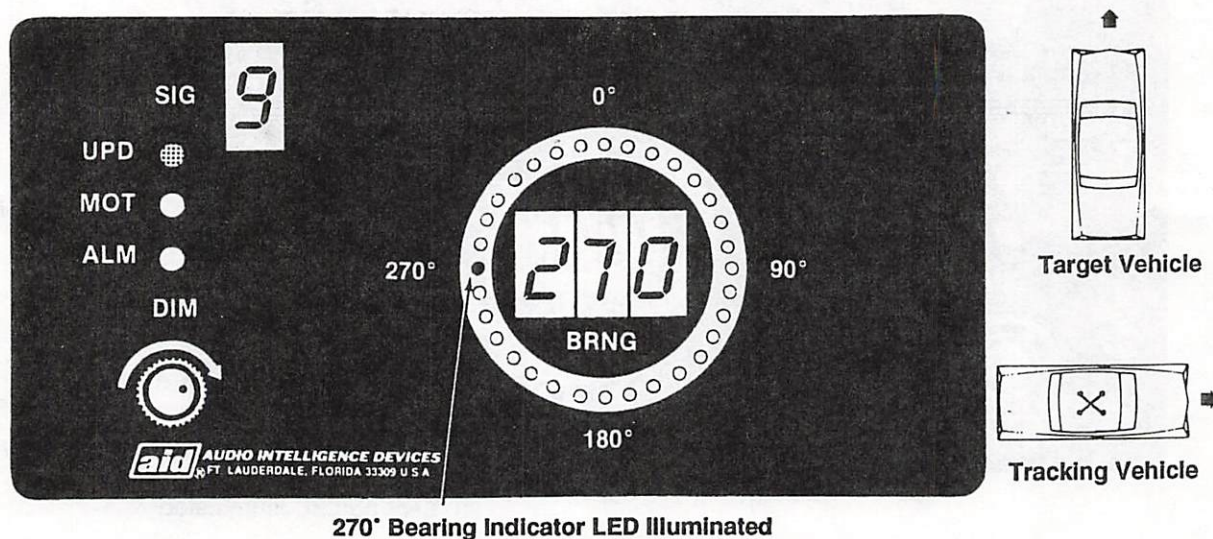

Figure 21. 270° Bearing Conditions
10. Move the tracking vehicle so that the target vehicle is to the left of the tracking vehicle. The DF Indicator should appear as in Figure 21 below (270 ± 10 degrees).